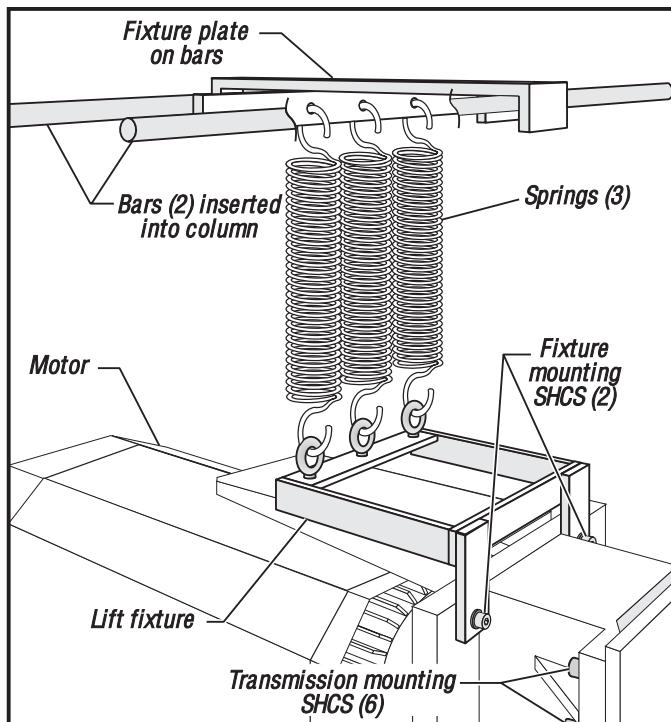

Figure 3-7. Belt tensioning fixture shown in place.
1. Place the lift fixture onto the transmission (Figure 3-7). Attach to the motor mounting plate with two SHCS.